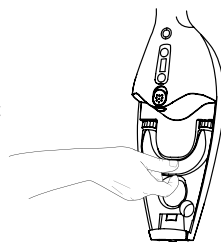

FIGURE 1
3. Replace with a new Water Treatment Cartridge (Figure 1) and replace Water Tank.